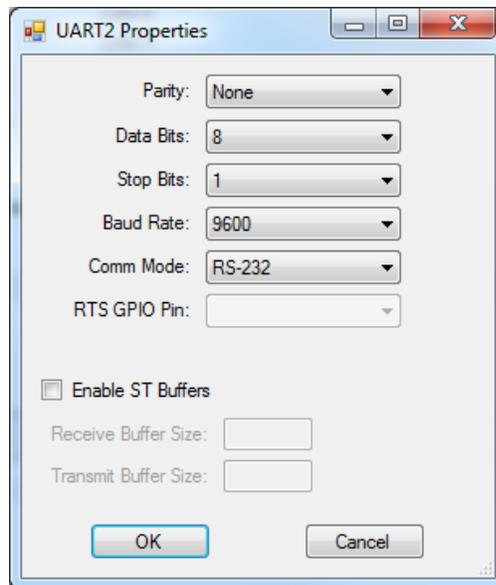

Figure 2-20 - UART Properties
5. Using the drop-down menu items, select the parity, data bits, stop bits, baud rate, Comm Mode and RTS GPIO pin from the \ available drop down options (UART2 RTS = GPIO158, UART3 RTS = GPIO159). If you are planning to use structured text to communicate with devices on this port, click the Enable ST buffers checkbox and enter the transmit and receive buffer size. Refer to Figure 2-20. Click **OK**. The *UARTx Properties* dialog will close.